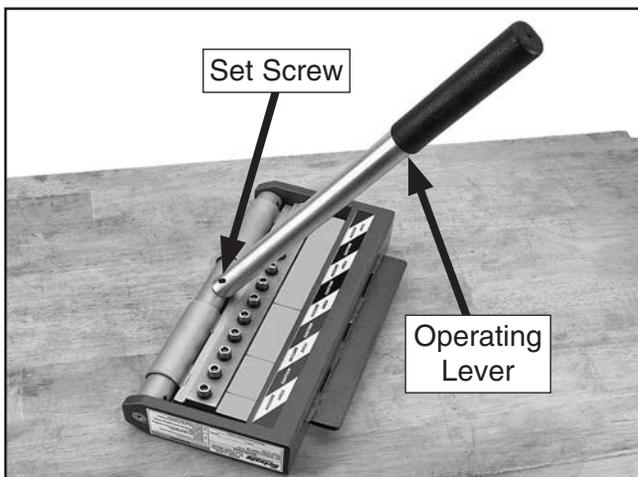

Figure 4. Operating lever attached.
2. Slide the operating lever onto the lever shaft (see **Figure 4**), and secure it with the pre-installed set screw.